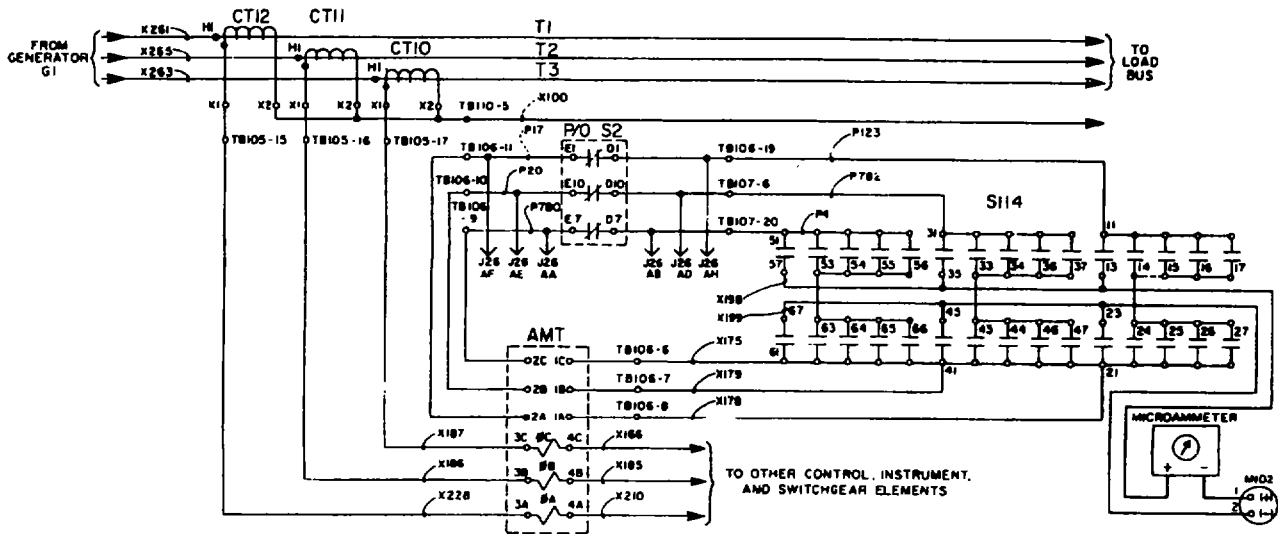

Figure 10-9. Current Transducer AMT, On Equipment Test Setup
- (1) With the generator set shut down, set LOCAL REMOTE switch S2 to LOCAL and AMMETER switch S114 to "1".
- (2) Open upper cabinet B door. See Figure 10-9. Connect a microammeter into the line connected to AC AMPERES meter M102 terminal "I".
- (3) With the generator set connected to a known, balanced load, start the generator set and close it onto the load bus in accordance with the Operator and Organizational Maintenance Manual.
- (4) Record the microampere reading at each AMMETER switch setting, i.e., "1", "2", and "X".